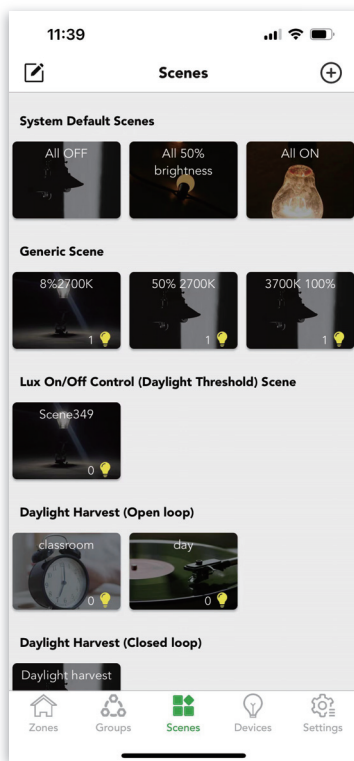

Figure R1.25 Animation-1
Step 1. Create the desired scenes and add them in a loop in the desired sequence. In this case, you can have three generic scenes: 8% brightness at 2700K -> 50% brightness at 2700K -> 3700K at 100% brightness. ( see figure R1.25 Animation-1, -2)